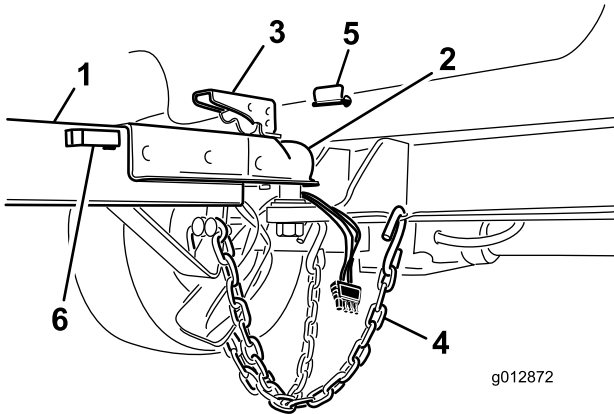

Figure 11
5. Store the harness connector in the hitch tube holster (Figure 11).
2. Lift the lever on the tongue while lowering the cover over the ball hitch (Figure 11).
4. Install the pin to lock the coupler lever (Figure 11).
5. Cross the safety chains and attach them to the holes on the hitch (Figure 11).